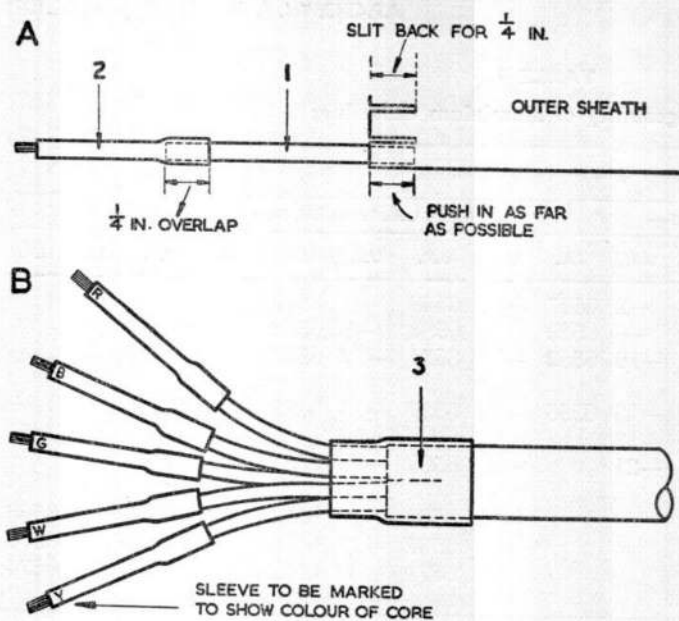

Fig. 9. Method of protecting deteriorated cables
47. Particular attention should be paid to cables which are unavoidably exposed to fuel, heat, or weather, at the entry to electrical components. Where the installation of these cables is found to be defective, the cables should be protected by means of suitable synthetic rubber sleeves. Referring to fig. 9, proceed as follows:—
- (1) Slit back the outer cable sheath for a distance of $\frac{1}{4}$ in. (A of fig. 9). Fit a synthetic rubber sleeve (1) over each core, pushing it as far as possible under the outer sheath.
- (2) If necessary, for the length of cable required, fit a second sleeve (2) which must overlap sleeve (1) by $\frac{1}{4}$ in.
- (3) Fit an outer synthetic rubber sleeve (3) over the entire cable (B of fig. 9). Mark each sleeve (2) to show the colour of the core.